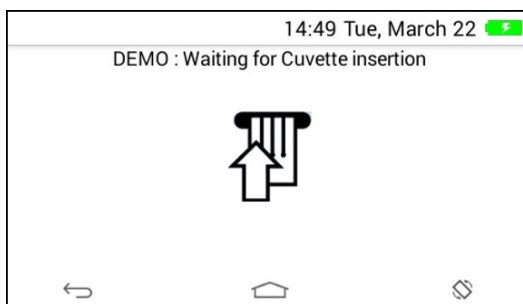

Figure 16 – Demo: Waiting for cuvette
- a) The demo prompts the Operator to insert a cartridge. (Do not insert a cartridge.) See Figure 16.